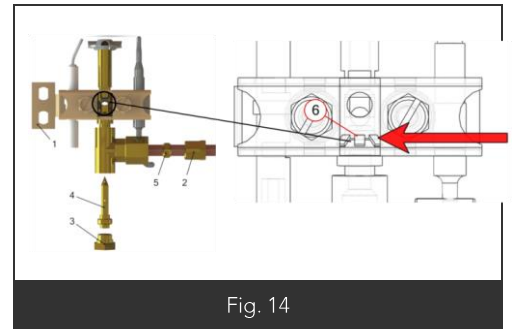

Fig. 14
- Unscrew the pilot light support (Fig. 14 Item 1)
- Unscrew the pilot gas connection (Fig. 14 Item 2)
- Unscrew the nut (Fig. 14 Item 3) in order to change the injector ((Fig. 14 Item 4)